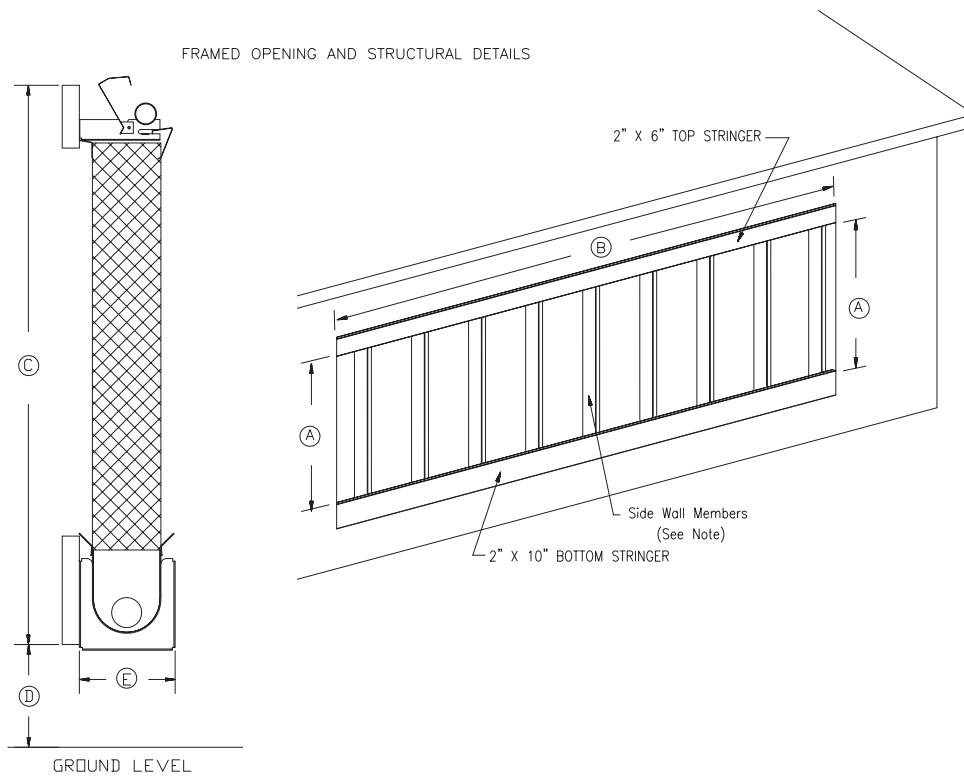

Figure 1
- Framing -** Verify framing installation using instructions and Figure 1 drawing in "Framed Opening and Structural Details" on page 6.